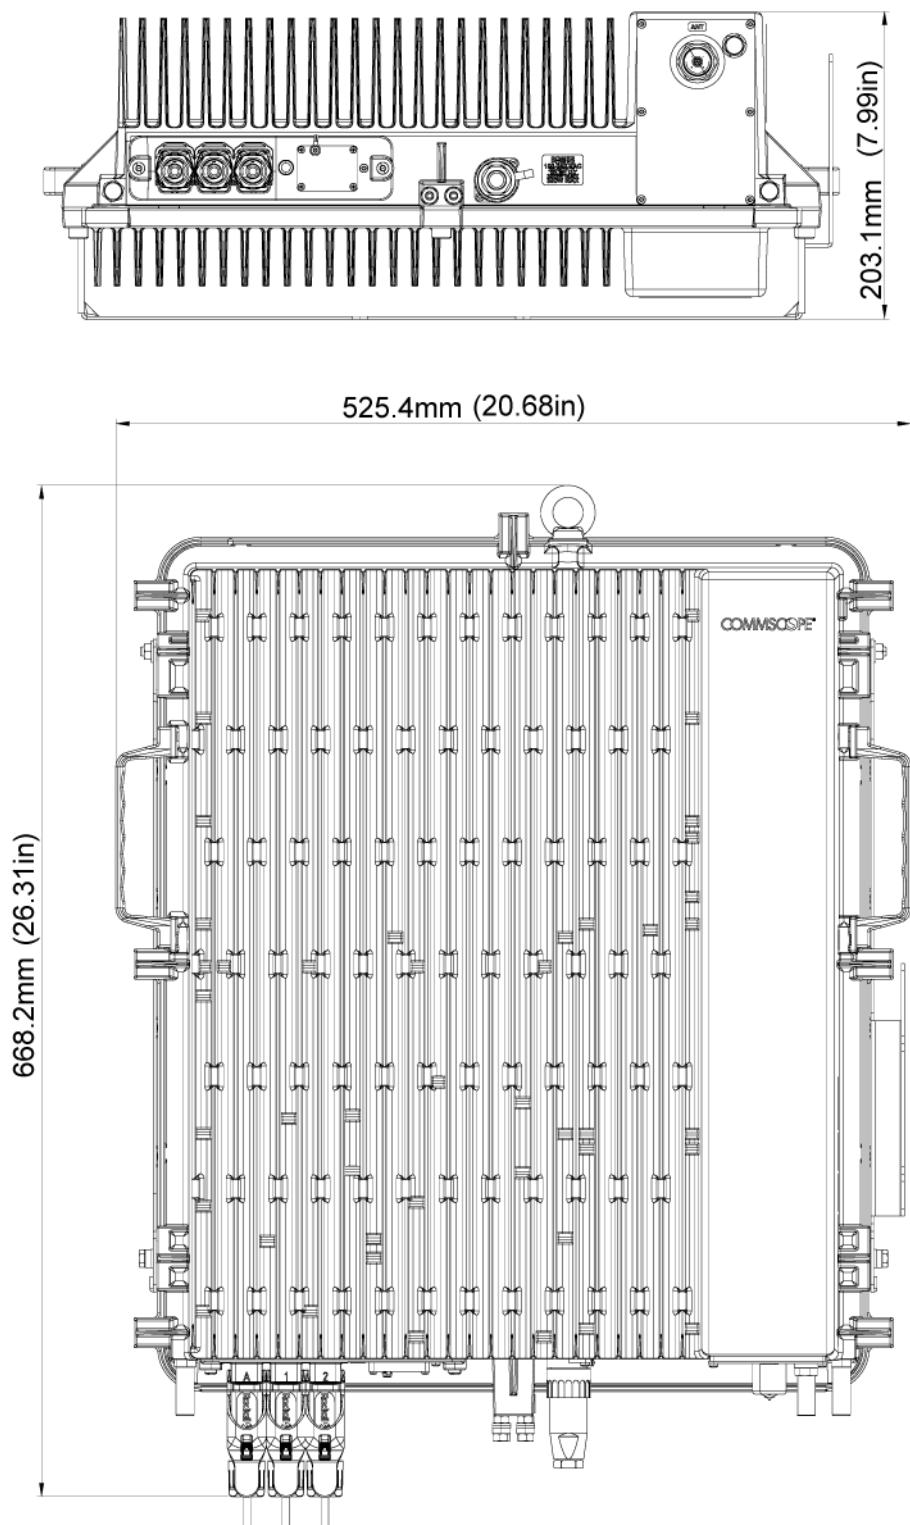
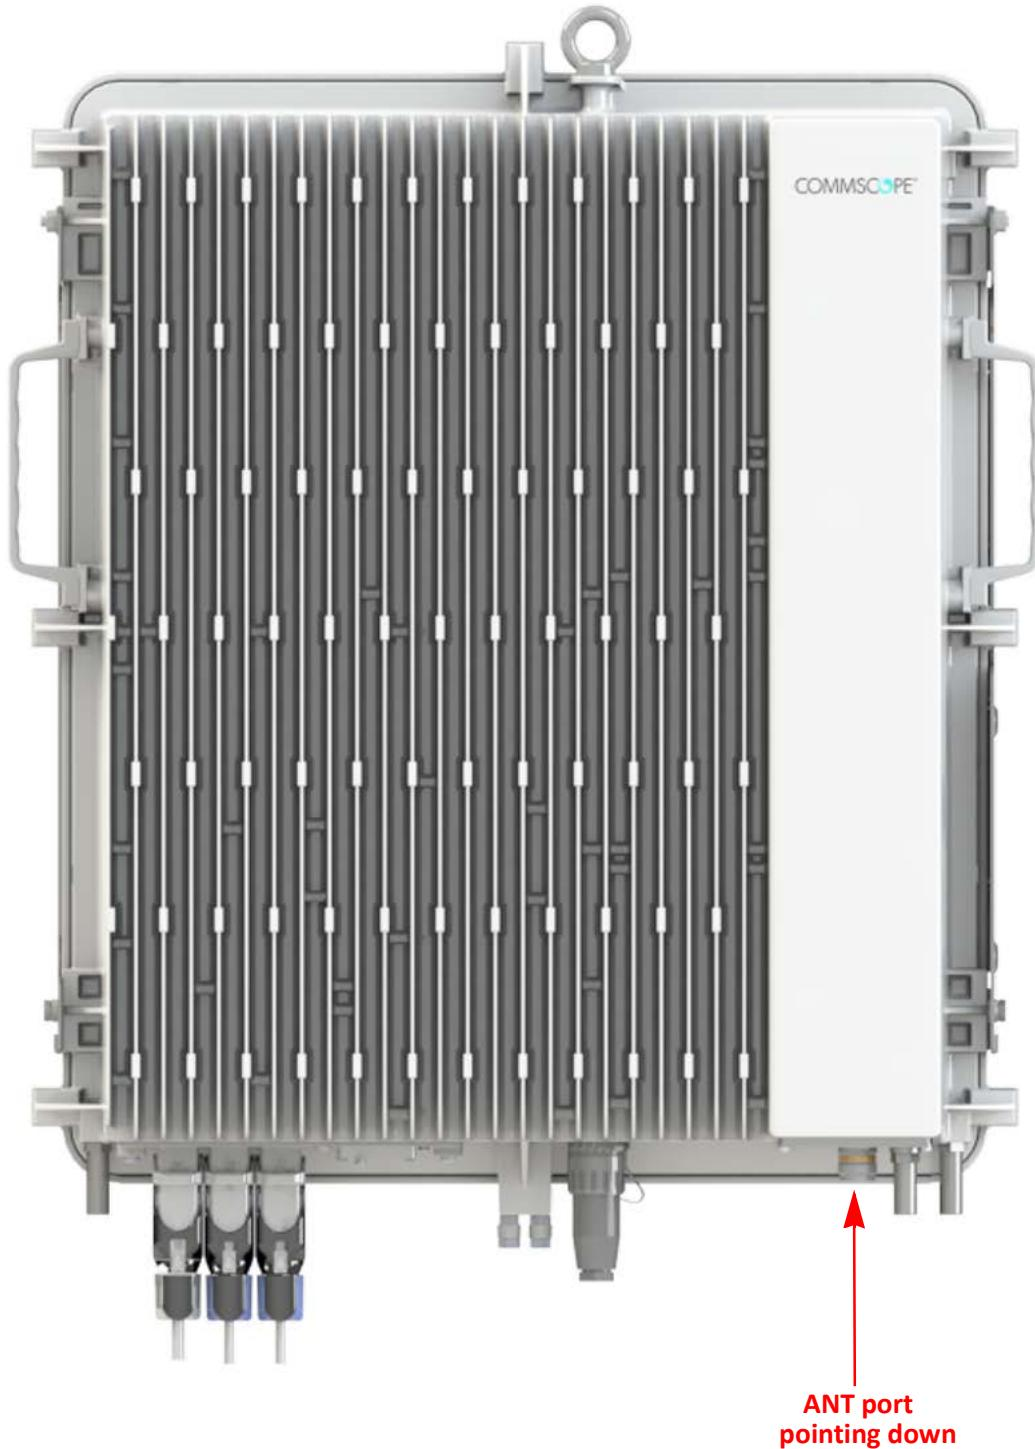

Figure 13. Mounting Dimensions for Single Mounting Bracket
Figure 15. Mounting Orientation for a CAP MX
- Use the dimensions shown in Figure 13 on page 24 for Single Mount and Figure 15 on page 31 for Dual Mount.
! CAP MXs are passively cooled and must therefore always be mounted with its ANT port pointing down, as shown in Figure 15.